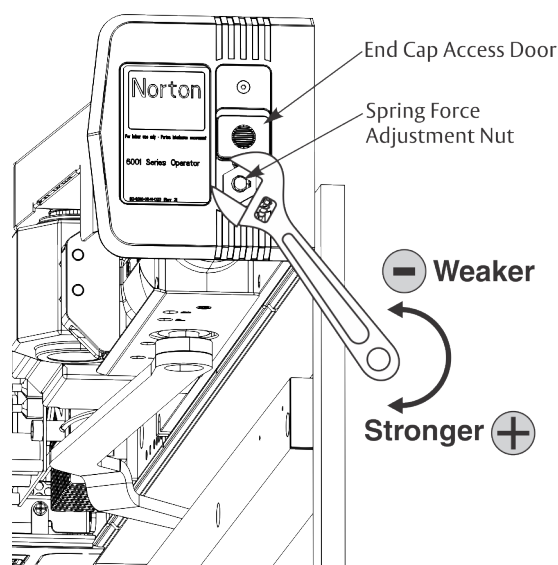

Figure 32 View of Right Door operator
1. Using 11/16" wrench, turn nut in end of each closer body tube to desired force. (Figure 32)
NOTE: If spring adjustment nut is too close to end cap and wrench will not reach nut, remove Torx screw in end cap access door and slide door open. When finished, slide access door closed and reinsert #6 Torx flat head screw to secure door. (Figure 32)